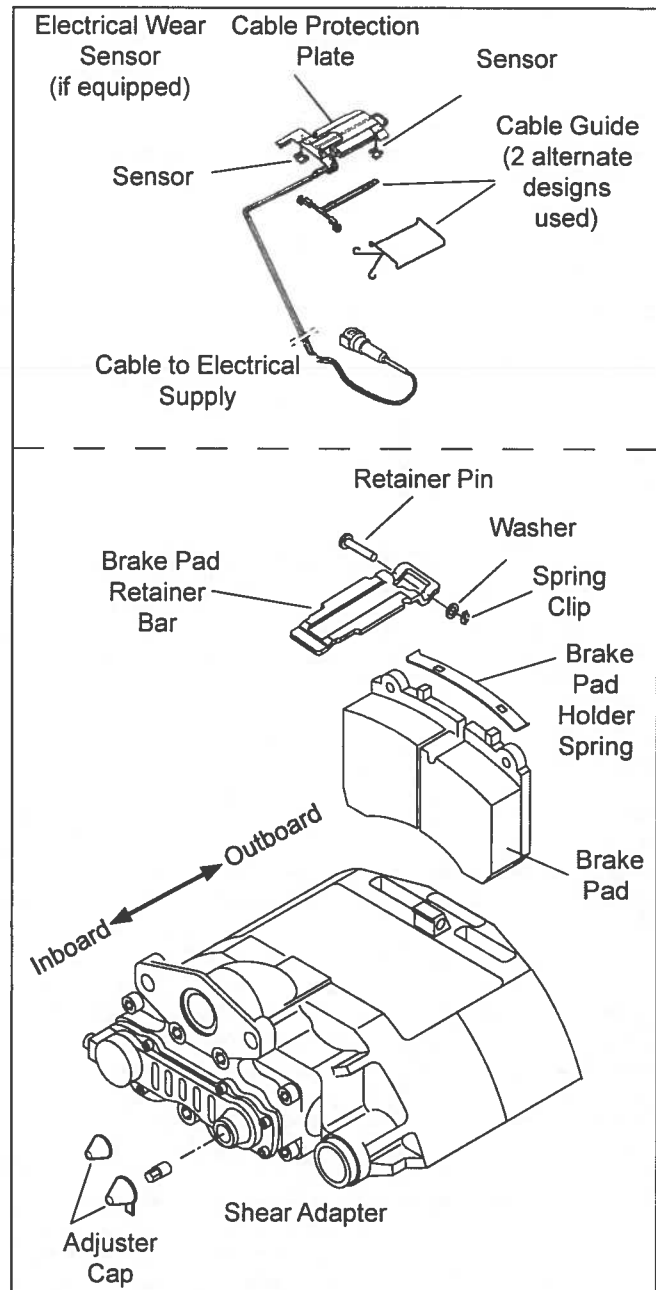

Figure 4 – Pad Replacement
1. If the air disc brake is equipped with an electronic wear sensor indicator (See top of Figure 4), remove and retain the cable protection plate and its mounting hardware. Note the position of the sensors in the brake pad channels, and carefully remove them. In most cases it is not necessary to release the cable connector in order to move the sensors away from the pad installation work area. Inspect the wear sensors – replace if damaged or abraded.
2. (See Figure 4). While pressing down against the brake pad retaining bar, remove the spring clip, washer, and retainer pin and brake pad retainer bar.
4. Push the pad retainer bar into the groove of the caliper. Press down on the pad retainer bar, and insert the pad retainer pin, with the pin pointing downwards, where possible. Install the washer and then the spring clip. (See Figure 4).